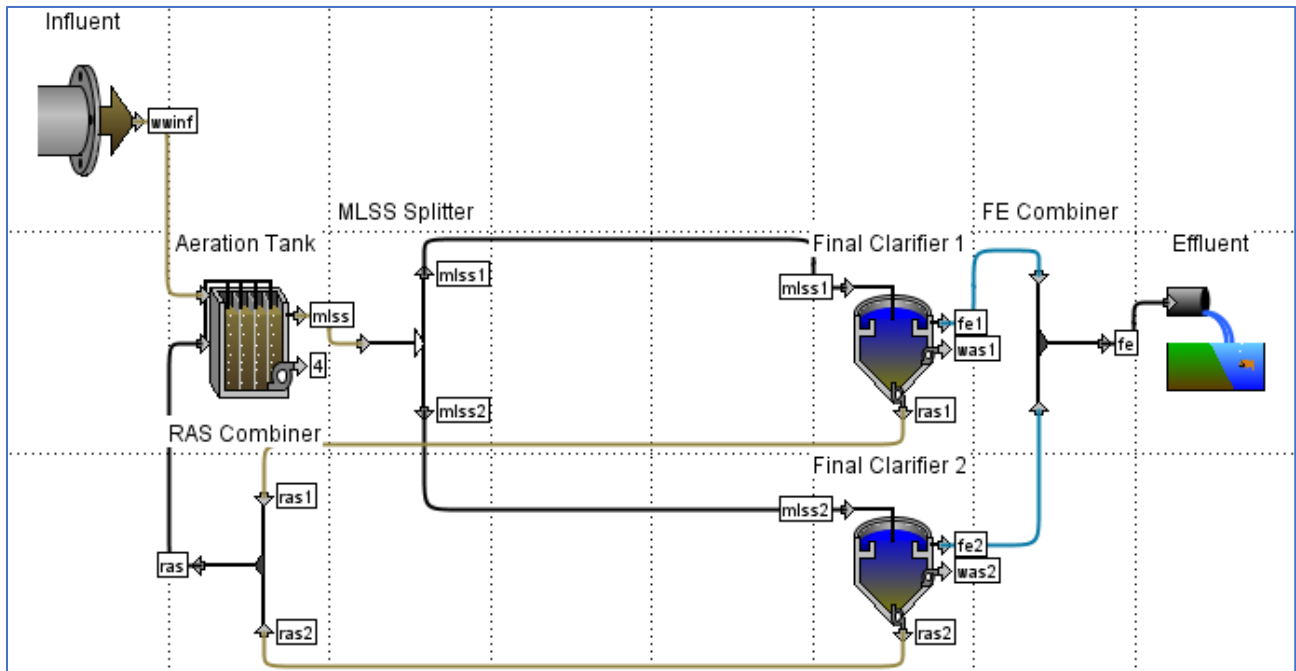

Figure 3-5 - Processes and Streams Labeled Properly
12. **Connect all objects and label all units and streams.** The last step of the plant expansion is to connect all the objects and label them appropriately as seen in **Figure 3-5** and described in **Table 3-1**.